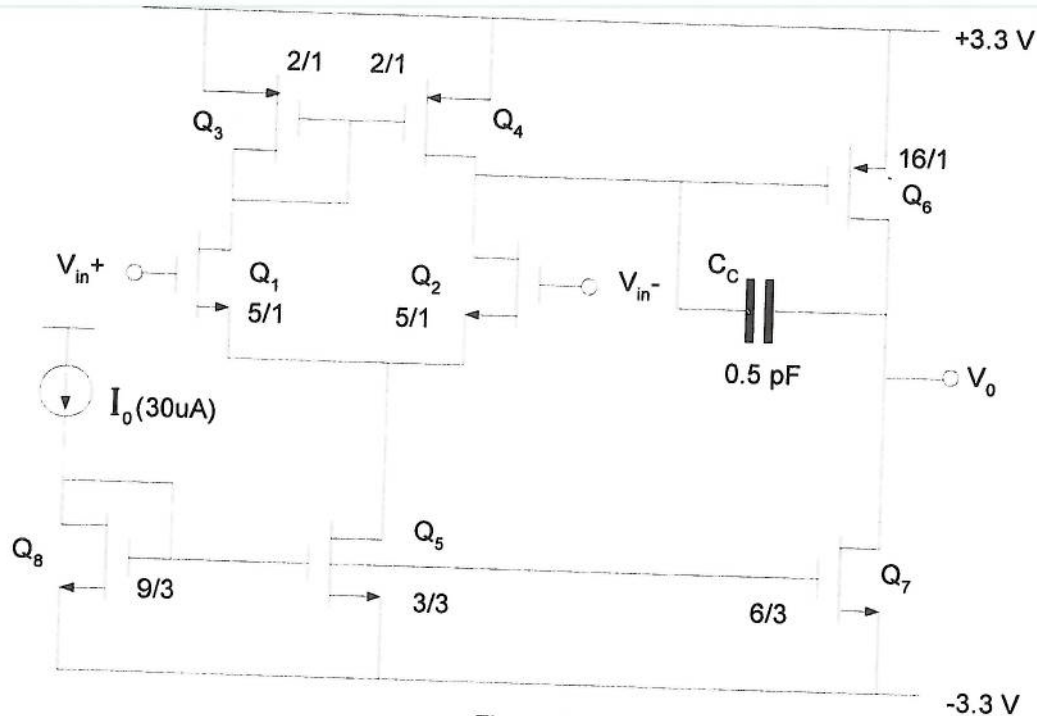

Figure 3
3. (a). Figure 3 shows a two-stage CMOS op-amp.